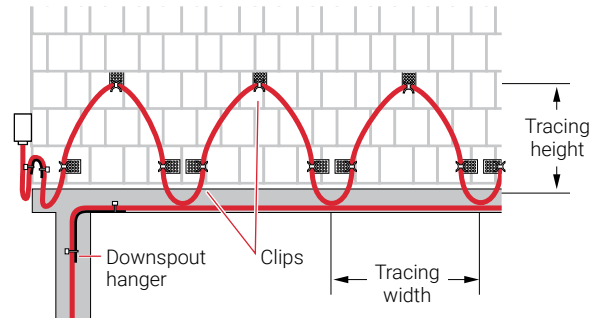
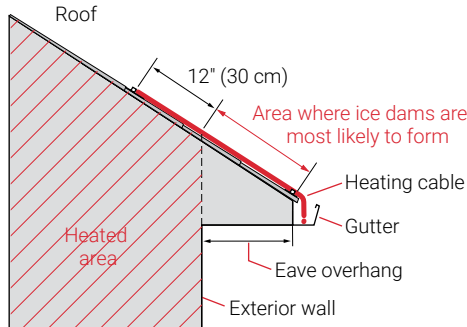

Figure 3: Front view of roof with IceStop system
Figure 4: Side view of roof with IceStop system
Figure 3 and Figure 4 following illustrate several important terms:
- Run heating cable up the roof until it is 12 inches (30 cm) past the exterior wall into the heated area (see Figure 4).
- Run the heating cable up the seam until it is 12 inches (30 cm) past the exterior wall and into a heated area, Figure 4 on page 16.